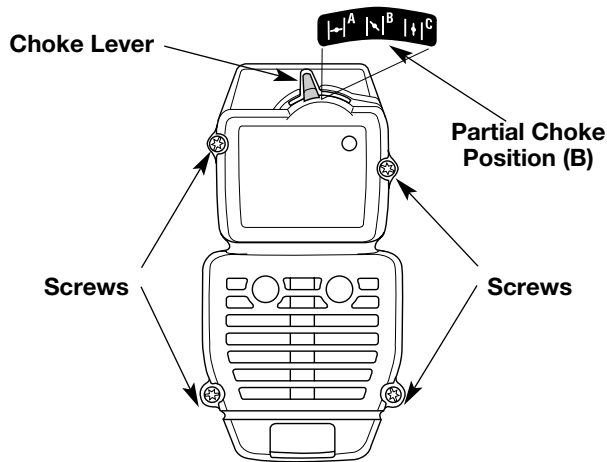

Fig. 31
**NOTE:** The choke lever must be in the **PARTIAL** choke position (**B**) (Fig. 31) to remove the air filter/muffler cover.
2. Remove the four (4) screws securing the air filter/muffler cover (Fig. 31). Use a flat blade or T20 Torx bit screwdriver.
**NOTE:** The choke lever must be in the **PARTIAL** choke position (**B**) (Fig. 31) to install the air filter/muffler cover.